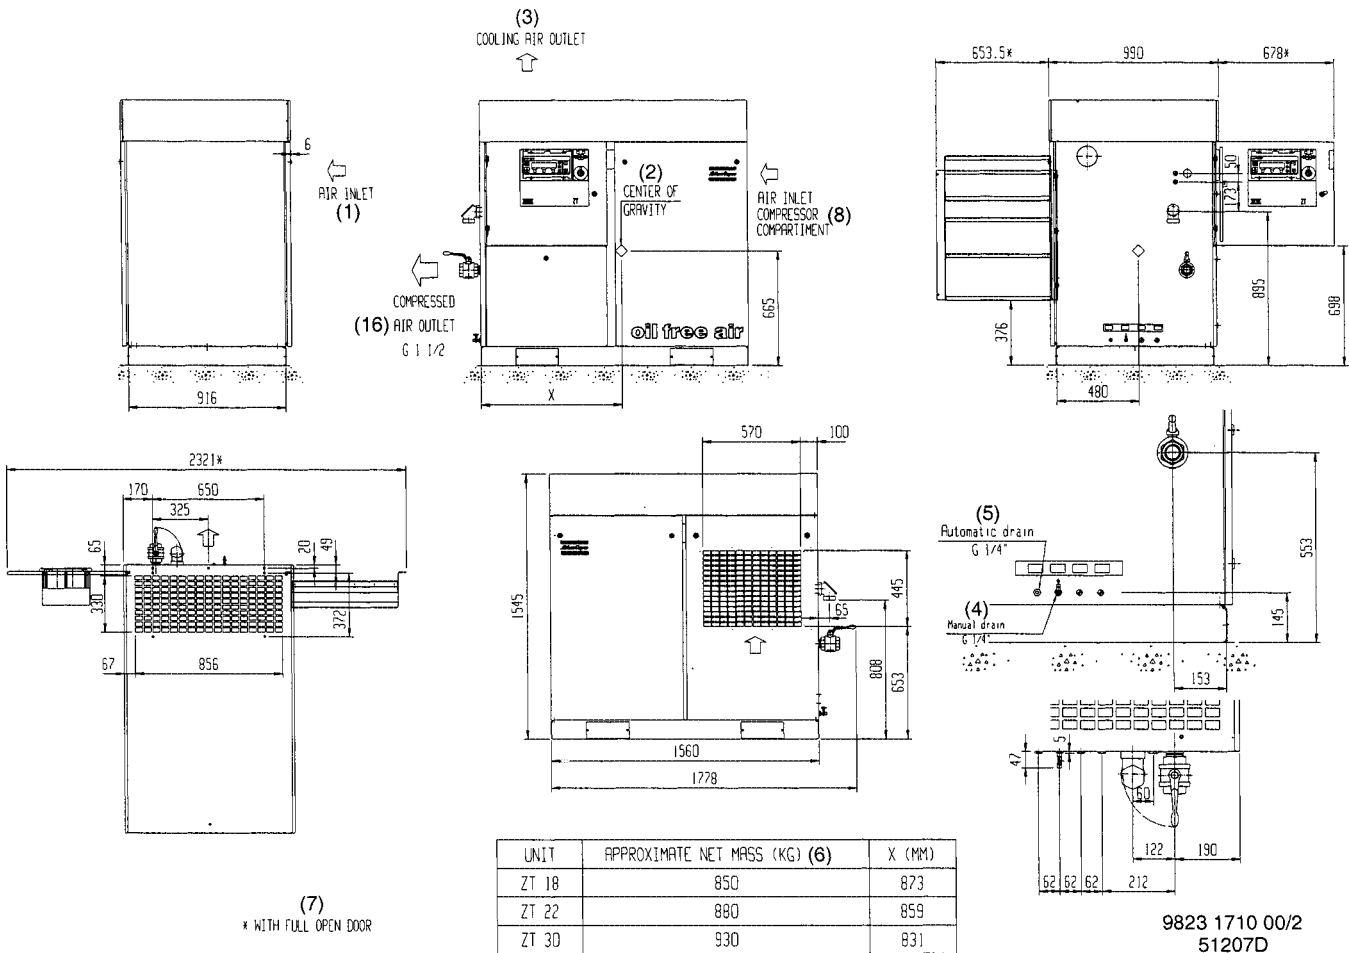

Fig. 2.1 Dimension drawing, ZT18/30
**2.1 Dimension drawings (Figs. 2.1 up to 2.7)**